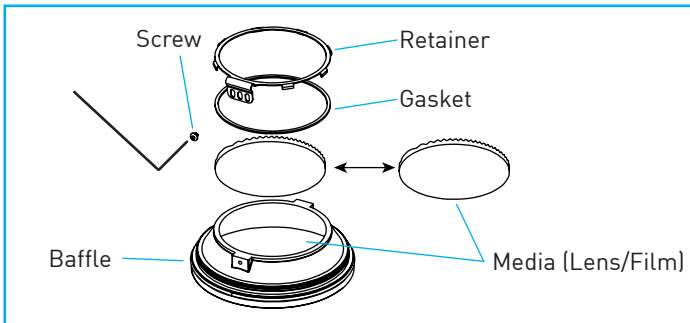

Fig.35
C. To change lens / film, remove lens retainer and gasket by loosening and removing screw. Insert preferred lens / film in proper orientation, securing with lens retainer / gasket and replacing and tightening screws "Fig.35".